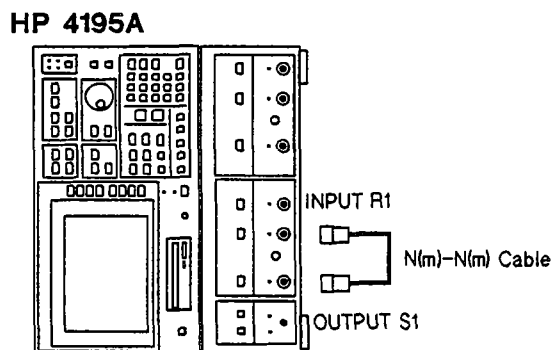

Figure 3-93. Third IF Converter Amplifier Adjustment Setup
1. Position the HP 4195A on its left side as shown in Figure 3-93.
2. Connect the N(m)-N(m) Cable from OUTPUT S1 to INPUT R1 as shown in Figure 3-93.